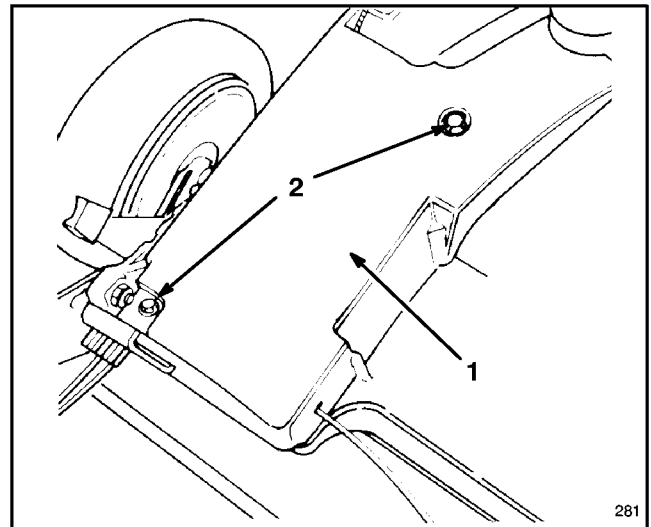

Figure 33
1. With engine turned off, remove screws securing belt cover to mower housing (Fig. 33). Lift off cover and brush out all debris from belt area. Reinstall belt cover.